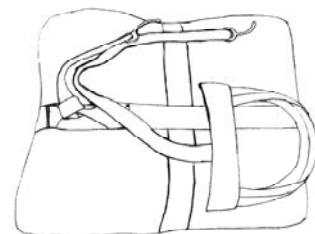

Fig.3
- Connect the trigger to the container by threading the loop on the trigger through the eye on the container and then pass the handle through the loop – a knot between the trigger and container eye shall result (see Fig. 3).